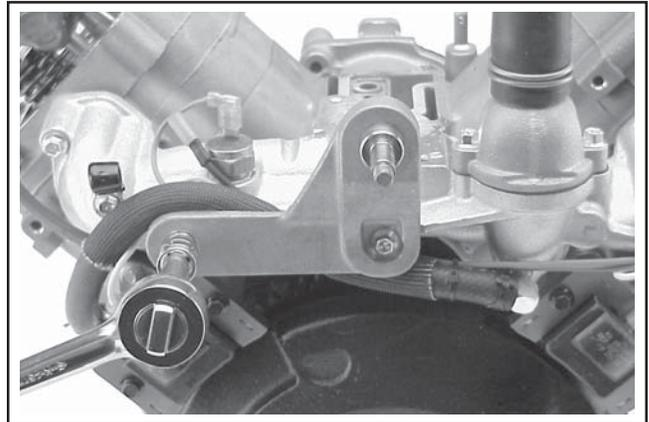

Figure 9-35. Removing Upper Fan Mounting Bracket Screws.
2. Remove the two hex flange screws and take off the mounting bracket, with the fan shaft attached. See Figure 9-35.